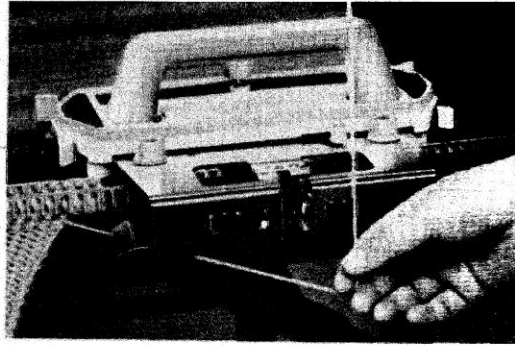

Fig.1
- (a) With the carriage at right side of the machine, unthread the yarn from the carriage feeder as shown in Fig.1.